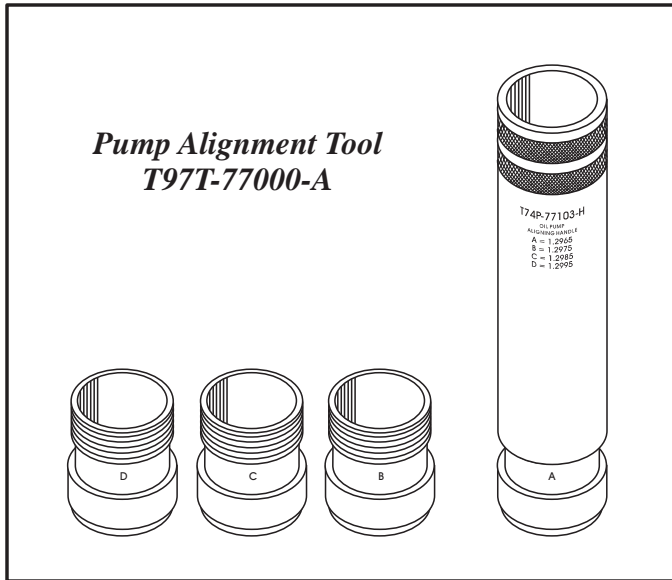

Figure 60
16. Install the appropriate size sleeve into handle of Pump Alignment Tool T97T-77000-A, shown in Figure 60, and install into pump.